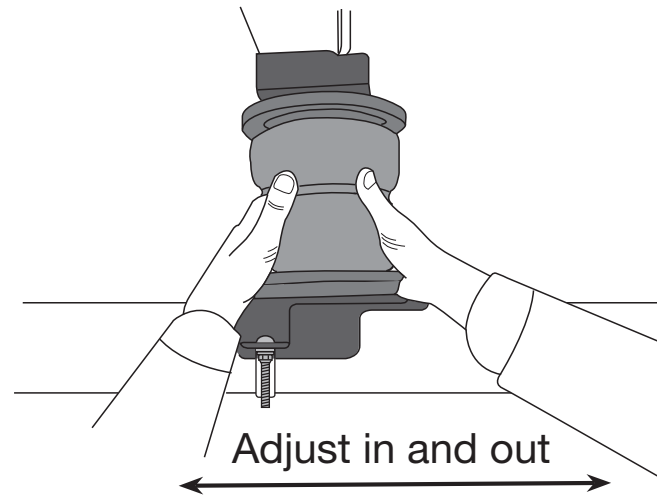

Fig. 9
**NOTE** *The upper bracket is slotted for forward and backward adjustment. The bottom adjusts by moving the bracket on the axle in or out (Fig. 9).*